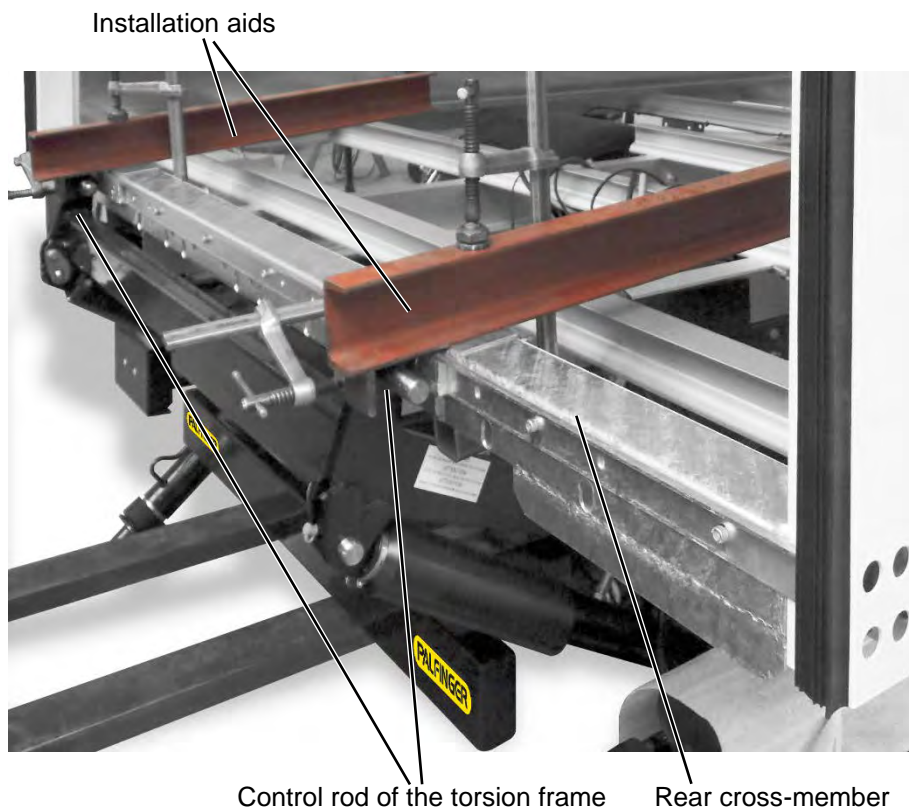

Figure 15: Bolting the lifting mechanism and installation aids
- ▶ Bolt the lifting mechanism with the installation aid (see Figure 15).